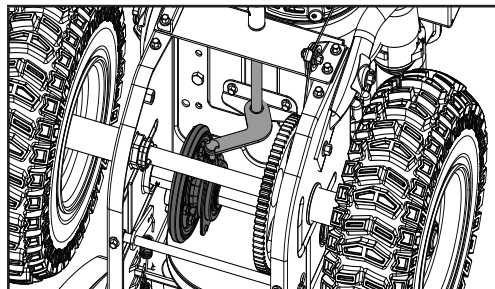

Figure 49
- Follow the previous steps in reverse order to reassemble the parts (Fig. 49).